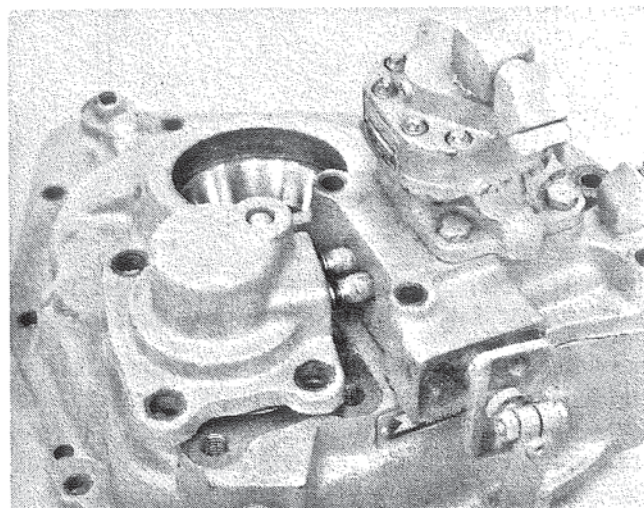

Figure 42. Installing Valve and Collector.
8. Install the valve body and collector over their clutch shafts and onto the rear cover. Secure the collector and valve bodies to the rear cover. Use four (4) hex head cap screws (1/2-13 x 1-1/4) to secure collector. Figure 42. Tighten screws to 61-68 ft. lbs. (8.41 - 9.38 kg/cm) torque. Use three (3) hex head